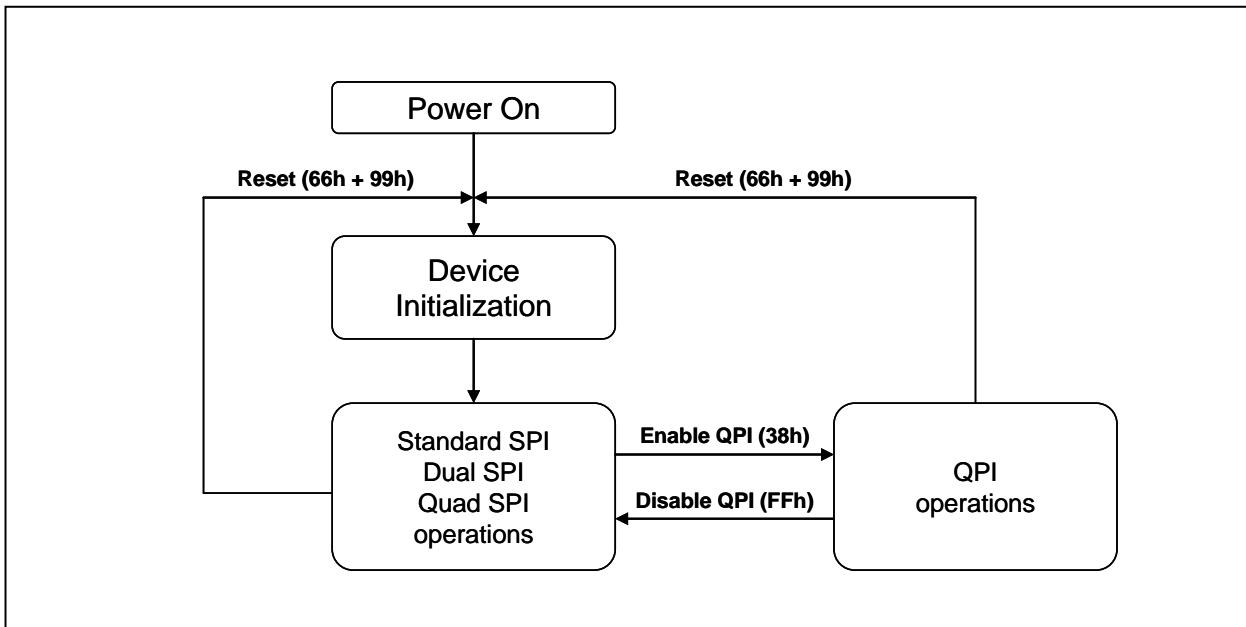

Figure 3. W25Q64FV Serial Flash Memory Operation Diagram
The W25Q64FV supports Quad Peripheral Interface (QPI) operations only when the device is switched from Standard/Dual/Quad SPI mode to QPI mode using the "Enable QPI (38h)" instruction. The typical SPI protocol requires that the byte-long instruction code being shifted into the device only via DI pin in eight serial clocks. The QPI mode utilizes all four IO pins to input the instruction code, thus only two serial clocks are required. This can significantly reduce the SPI instruction overhead and improve system performance in an XIP environment. Standard/Dual/Quad SPI mode and QPI mode are exclusive. Only one mode can be active at any given time. "Enable QPI (38h)" and "Disable QPI (FFh)" instructions are used to switch between these two modes. Upon power-up or after a software reset using "Reset (99h)" instruction, the default state of the device is Standard/Dual/Quad SPI mode. To enable QPI mode, the non-volatile Quad Enable bit (QE) in Status Register-2 is required to be set. When using QPI instructions, the DI and DO pins become bidirectional IO0 and IO1, and the /WP and /HOLD pins become IO2 and IO3 respectively. See Figure 3 for the device operation modes.